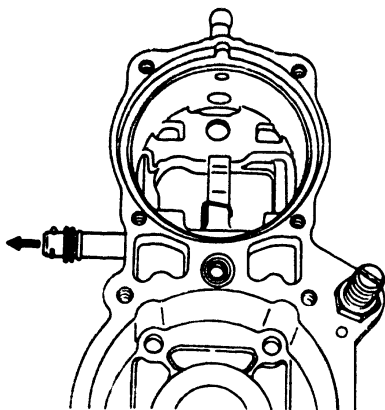

Fig. 44 Removing the stopping-lever shaft
4. By tapping the stopping-lever shaft end (control-lever side) lightly with a mallet, remove it from the diaphragm housing. (Fig. 44)